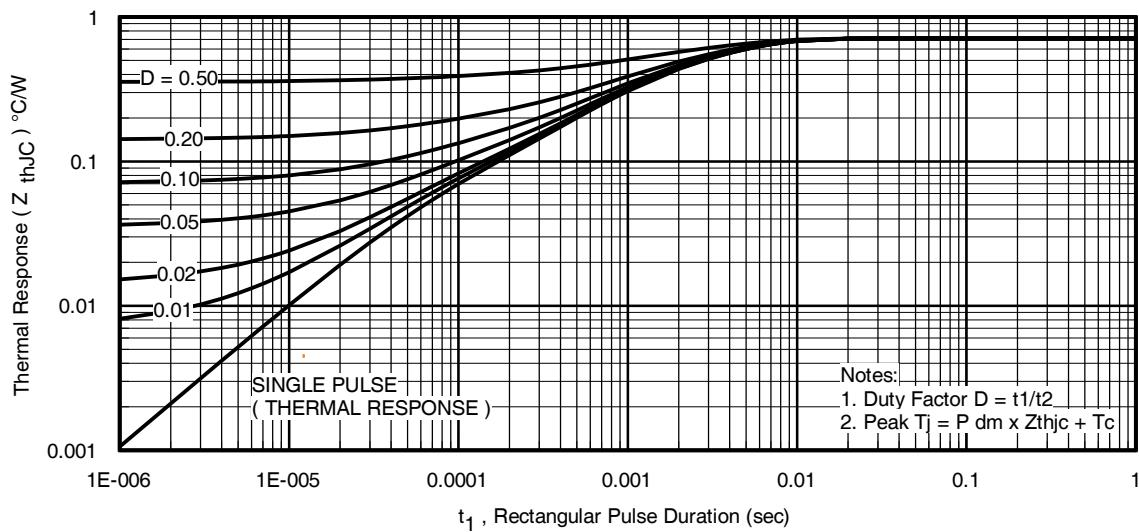
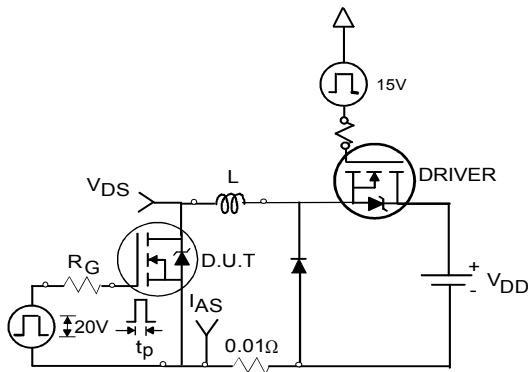

Fig 11. Maximum Effective Transient Thermal Impedance, Junction-to-Case
Fig 12a. Unclamped Inductive Test Circuit
- ① Repetitive rating; pulse width limited by max. junction temperature. (See fig. 11)
- ② Limited by $T_{J\max}$, starting $T_J = 25^\circ\text{C}$, $L = 3.6\text{mH}$, $R_G = 50\Omega$, $I_{AS} = 11\text{A}$, $V_{GS} = 10\text{V}$. Part not recommended for use above this value.
- ③ Pulse width $\leq 1.0\text{ms}$; duty cycle $\leq 2\%$.
- ④ $C_{oss\ eff.}$ is a fixed capacitance that gives the same charging time as C_{oss} while V_{DS} is rising from 0 to 80% V_{DSS} .
- ⑤ Limited by $T_{J\max}$, see Fig.12a, 12b, 15, 16 for typical repetitive avalanche performance.
- ⑥ This value determined from sample failure population, starting $T_J = 25^\circ\text{C}$, $L = 3.6\text{mH}$, $R_G = 50\Omega$, $I_{AS} = 11\text{A}$, $V_{GS} = 10\text{V}$.
- ⑦ This is applied to D²Pak When mounted on 1" square PCB (FR-4 or G-10 Material). For recommended footprint and soldering techniques refer to application note #AN-994
- ⑧ R_0 is measured at T_J approximately 90°C .
3. Equation below based on circuit and waveforms shown in Figures 12a, 12b.